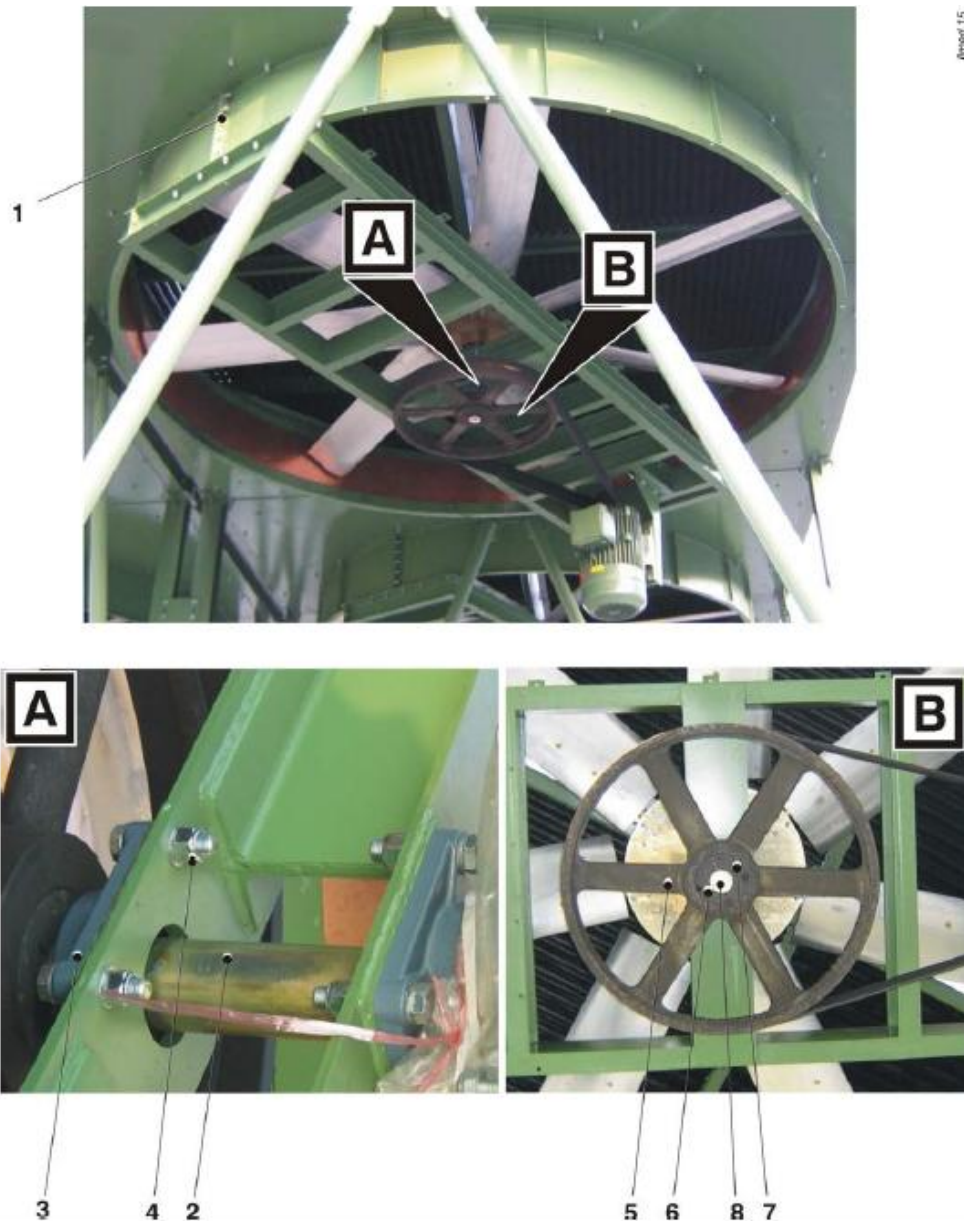

Figure 2-5: Driven pulley installation of the TFF-01 fan series.
1. Assemble the two half casing using the side bolts (1, Figure 2-5).